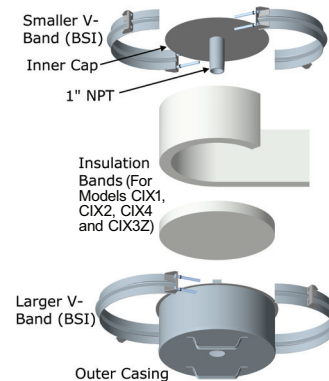

Figure 34: Drain Tee Cap (DTC)
The Drain Cap (DTC) is used as a drain for the base of vertical installation and must be connected to a suitable disposable point. It can also be used as an access for cleanouts or access purpose. See Figure 34. Same installation as a Tee Cap (TC).